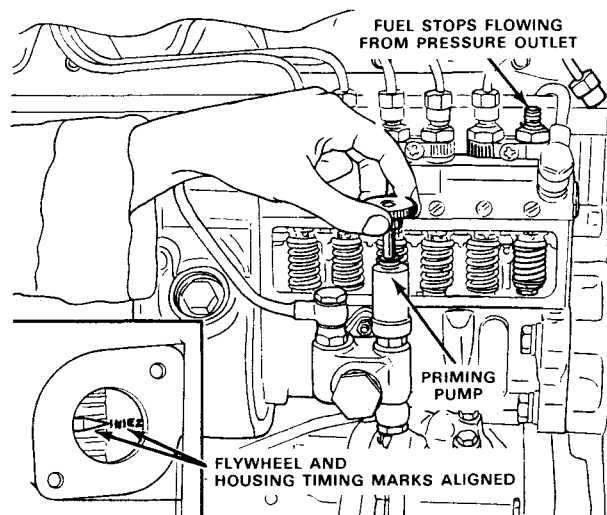

FIG. 16 Correct Pump/Engine Timing (SSD-655)
7. This point marks the beginning of fuel delivery to the number one injector. The INIEZ mark on the flywheel should line up with the pointer on the flywheel housing (Fig. 16). If the INIEZ mark does not line up, turn the crankshaft until it does.